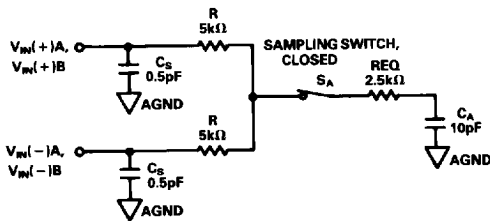
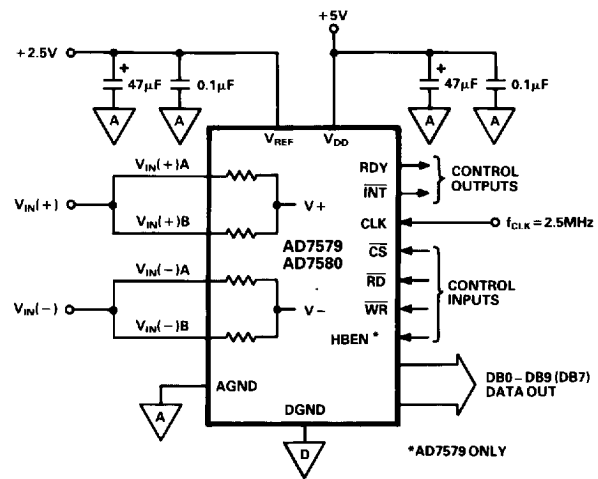

Figure 7. AD7579/AD7580 Equivalent Input Circuit During Sampling
Figure 12. Unipolar 2.5V Operational Diagram
Figure 7 shows an ac equivalent input circuit for the AD7579/AD7580 when used in the 2.5V Unipolar Mode of Figure 12. The ADC comparator is a sampled data comparator and the input circuitry for this is represented by S_A , R_{eq} and C_A . R_{eq} is a combination of the switch-on resistance and the input impedance of the comparator. When conversion starts, $V_{IN}(+)$ is sampled for at least $(2t_{CLK} + t_{WR} + 200ns)$ before the comparator goes into the hold mode. This means that the analog input has a minimum of $1.1\mu s$ ($f_{CLK} = 2.5MHz$, $t_{WR} = 100ns$) to settle before the comparator makes a decision. By using the typical values in Figure 7 for R , R_{eq} and C_A , the input time constant is $50ns$. Settling to $\pm 1/4LSB$ in a 10-bit system takes 8.3 time constants or $415ns$ in this case. This means that $V_{IN}(+)$ has plenty of time to settle before the ADC comparison cycle begins. It is important to remember that any source resistance or source capacitance appearing at the input will also increase the settling time and this should be kept to a minimum in all cases.
With a 2.5MHz clock, the AD7579/AD7580 has a maximum conversion time of $18.5\mu s$. If $1\mu s$ is allowed for reading the data outputs, the maximum sampling rate for the device is 50kHz. This means that the maximum analog input frequency is 25kHz according to the Nyquist theory. The ADC input impedance in the Unipolar Configuration of Figure 12 is $10M\Omega$. A medium bandwidth op amp will drive this at 25kHz. When the input attenuators are used for signal conditioning, the input impedance is $10k\Omega$. The drive requirements on the amplifier will now be greater but any errors resulting will be gain errors only. Suitable op amps for driving the AD7579/AD7580 in any of the input configurations are the AD711, AD OP-27, AD544. These will deliver specified device performance over the input bandwidth.
Figure 12 shows the AD7579/AD7580 connected in the standard unipolar mode. Figure 13 and Table V show the ideal input/output
Table V. Input/Output Code Table for Figure 12
*DECOUPLING CIRCUITRY AND CONTROL CIRCUITRY AS IN FIGURE 12
In many cases, users of the AD7579/AD7580 will want to measure single-ended input voltages (i.e., ground referred signals). The circuits of Figures 12, 14 and 15 can be easily adapted to accept such signals. If $V_{IN}(-)$ in Figure 12 is tied to AGND, then the analog input range is 0V to +2.5V. By connecting $V_{IN}(-)$ of Figure 14 to AGND, the analog input range becomes 0V to +5V. Figure 15 can be modified as in Figure 16 to accept input voltages in the range -2.5V to +2.5V. Each of these circuits are special cases of the Differential Input circuits and are achieved by making the negative input to the internal comparator equal to AGND.